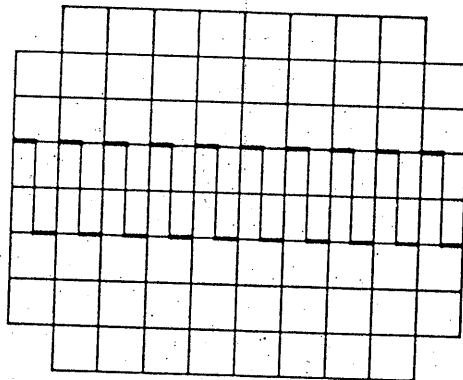

Fig. 4
- 3) Connect the signal of the CAL (1 Vp-p) terminal (17) to the vertical INPUT terminal (8) using the lead with BNC connector or other appropriate cord.
- 4) Set the GND (10) switch in the popped up state () , and so adjust the LEVEL knob (24) that the displayed waveform becomes stationary. A waveform as shown in Fig. 4 should be displayed on the CRT screen.